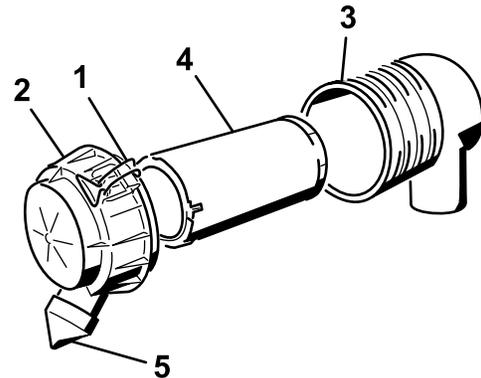

Figure 21
3. Release the latches on the air cleaner and pull the air-cleaner cover off the air-filter body (Figure 21).
6. Gently slide the filter out of the air-filter body (Figure 21).
8. Carefully install the filter (Figure 21).
9. Install the air-cleaner cover with the dust cap oriented downward and secure the latches (Figure 21).